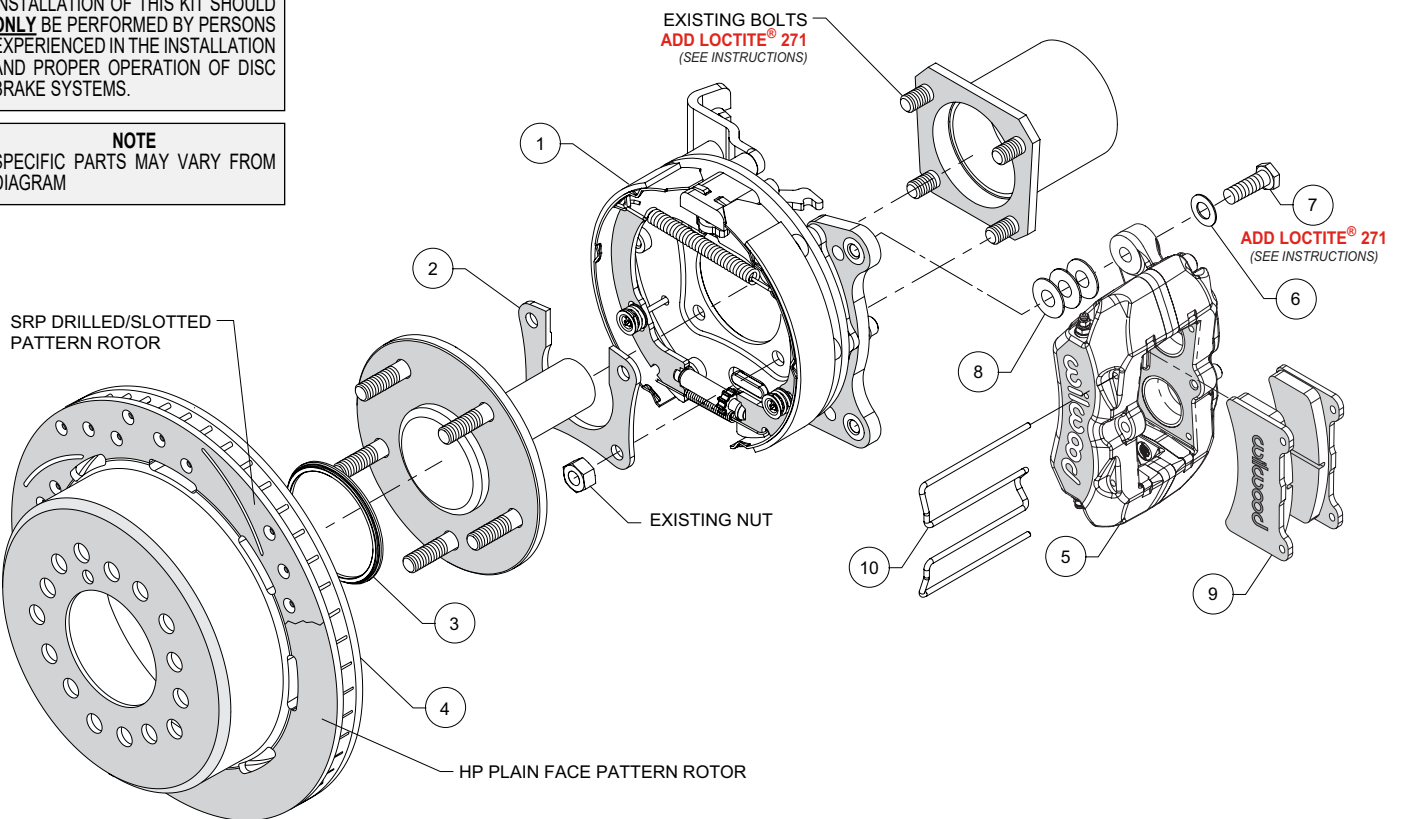
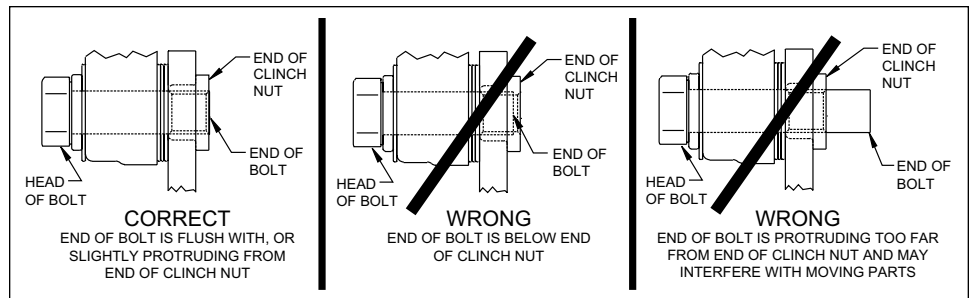

Figure 1. Typical Installation Configuration
Figure 5. Clinch Nut Engagement Diagram
**NOTE:** Numbers in parenthesis refer to the parts list and Figure 1 on the preceding pages.
**CAUTION:** All mounting bolts must fully engage clinch nuts. Be sure to check that all bolts are either flush or protruding through flanged side of clinch nut after shimming, Figure 5.
•Orient the bracket assembly (1) as shown in Figure 1 and Photo 1 and slide it onto the axle. Insert the axle and bracket into the axle housing. Ensure that the bracket assembly backing plate fits flush against the axle housing flange.
•Install the bearing retainer (2) with the opening pointing upward and the lip facing inward (toward the bearing), as shown in Figures 1 and 4, and Photo 2. Secure retainer and bracket assembly to the axle housing flange using the Original Equipment Manufacturer (OEM) bolts and nuts, Figure 1. Apply red *Loctite*® 271 to the OEM bolt threads and torque to OEM specifications.
- Slide the rotor registration adapter (3) onto the axle register on the axle flange with the smaller O.D. facing toward the rotor/hat (4), Photo 3. Align the correct hole pattern in the rotor/hat with the stud pattern on the axle flange and slide into place, Figure 1 and Photo 4. **NOTE:** The rotor/hat must fit flush against the axle flange or excessive rotor run out may result. Install three lug nuts (finger tight) to keep the rotor/hat assembly in place while continuing with the installation. **NOTE:** Some OEM and after market axles come with stud sizes larger than 0.50" diameter. Verify stud size and have a qualified machine shop drill the bolt circle of the hat/rotor to the correct stud size, if necessary.
- NOTE:** Please reference the caution statement at the beginning of the assembly instructions. Mount the caliper (5) onto the caliper mounting bracket (1) using bolts (7) and washers (6), as shown in Figure 1. Initially place three .035" thick shims (8) on each bolt between the caliper and the bracket, Photo 5. Temporarily tighten the mounting bolts and view the rotor (4) through the top opening of the caliper. The rotor should be centered in the caliper, Photo 6. If not, adjust by adding or subtracting shims between the bracket and the caliper. Always use the same amount of shims on each of the two mounting bolts. **NOTE:** The end of each bolt must be flush with or slightly protruding from the head of the clinch nut, as shown in Figure 5. If necessary place spare shims between washer (6) and caliper mounting ear to achieve the proper clinch nut engagement. Once the caliper alignment and clinch nut engagement are correct, remove the bolts one at a time, apply red *Loctite*® 271 to bolt threads, and torque to 40 ft-lb.